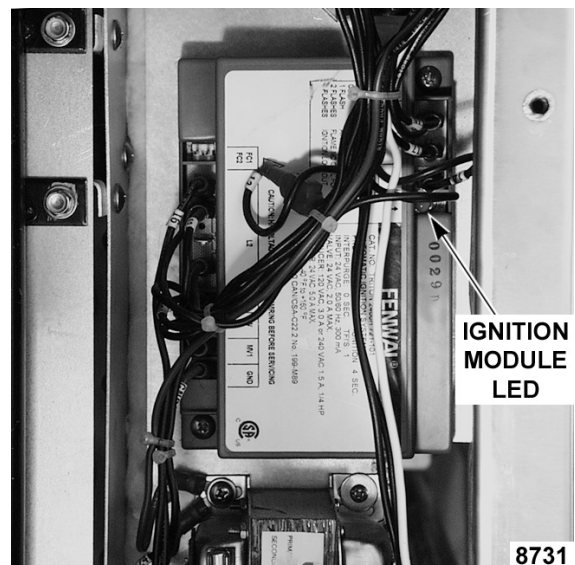

Fig. 12
- I. Observe LED on ignition module (Fig. 12). The module should lockout. (See following chart.)